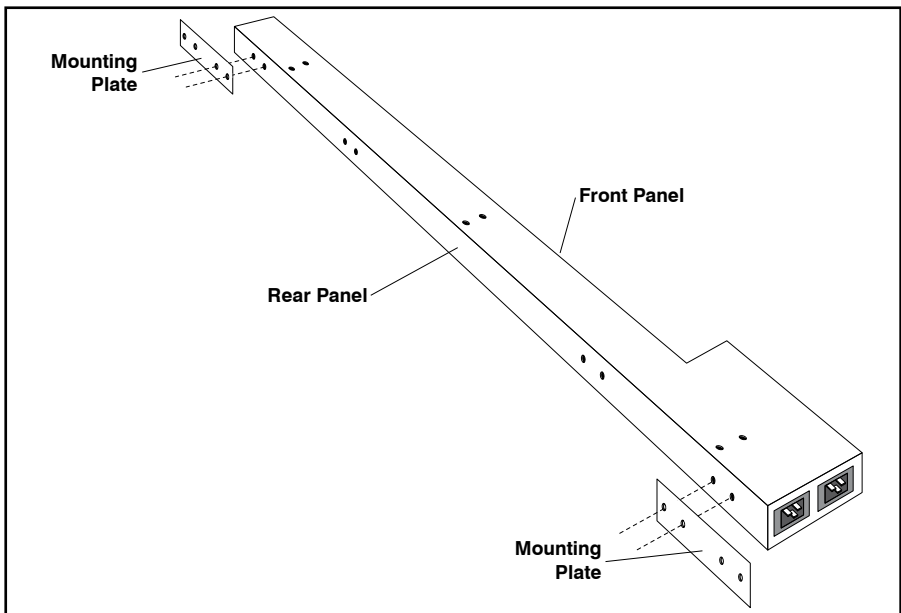

Figure 4: Installing Mounting Plates
1. **Attaching the Brackets to the NBB:** Determine which direction the NBB will face after mounting, and then secure the Mounting plates to the NBB as shown in Figure 4, using the screws provided with the mounting brackets.
2. **Attaching the Mounting Plates to the Equipment Rack:** Determine which direction the NBB unit will face in the rack, then line the screw holes in the Mounting Plates up with two holes in the equipment rack mounting strip. Make certain that the unit is level, and then use two screws to secure each Mounting Plate to the rack as shown in Figure 4.